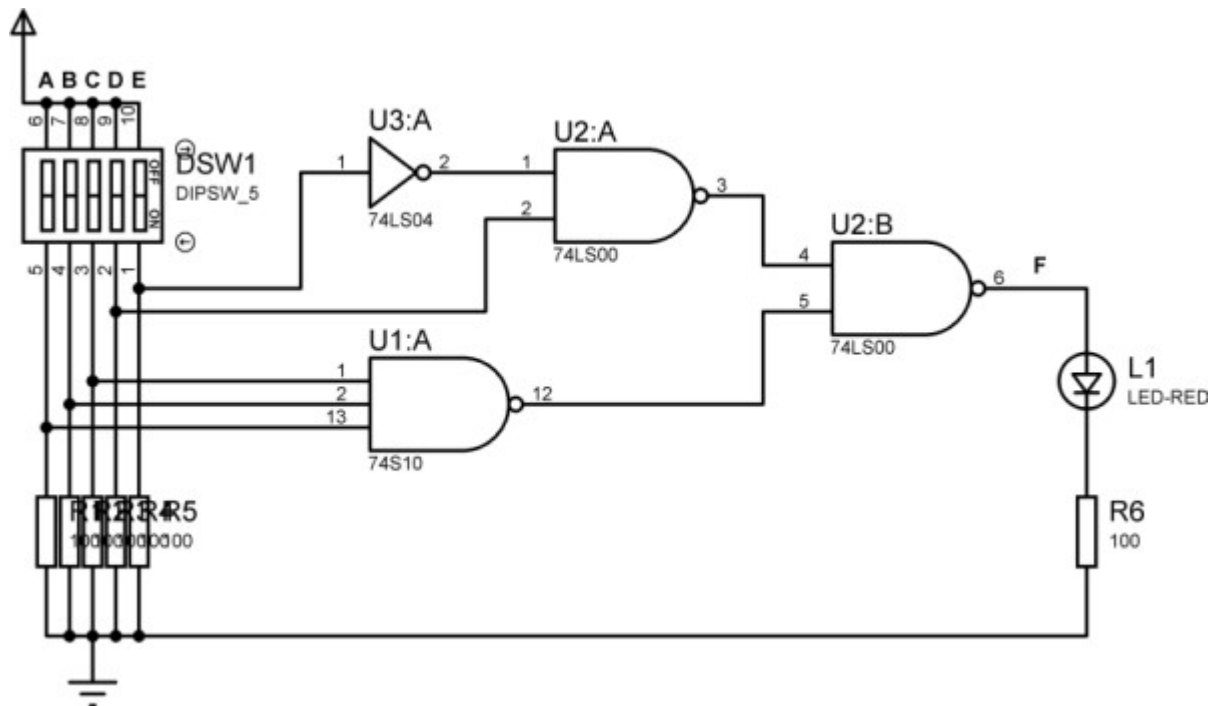

Figure 6 Logic circuit example #1.
Figure 6 is a logic circuit with inputs A, B, C, D and E via the dual-inline package (DIP) switch. The output is a single LED.
1. Draw the circuit in **Figure 6** using EAGLE schematic editor. Use standard and agreed schematic symbols and all components shall have through-hole packages. Replace non-standard designators. Properly terminate the power supply connection. Refer below for the library references of the components. As mentioned, all packages are through-hole.